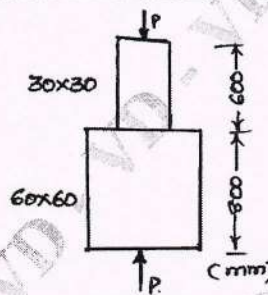

Fig Q1(b)
- b. A bar made up of two square sections, one of steel and the other of aluminium is shown in Fig Q1(b). The bar is acted upon by a compressive force P. Determine the value of P if the total decrease in length of the bar is 0.3mm. Take $E_s = 205\text{GPa}$ and $E_{al} = 75\text{GPa}$.